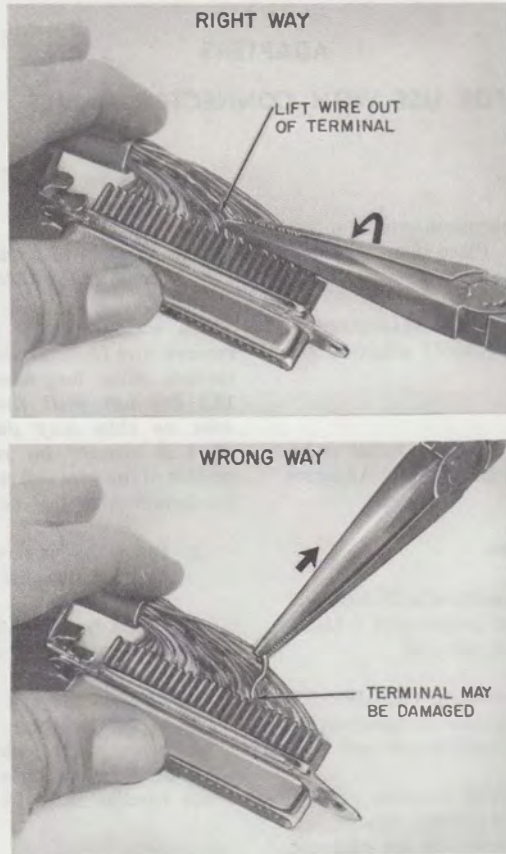

Fig. 13.1—Removing Terminated Wire
When wiring changes are required in the field, remove wire from terminal by lifting with a rolling motion, using long-nose pliers as shown in Fig. 13.1 ***Do not pull the wire parallel to the slot as this may damage the terminal so that it cannot be reused.*** Cut off the used portion of the wire and reterminate using a KS-21872 hand-connecting tool as follows:
2.002 Add new Fig. 13.1.